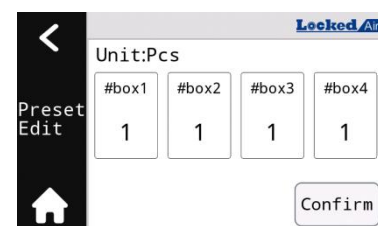

Figure 5b
a. Preset: Tap  to enter edit interface. (Figure 5b)